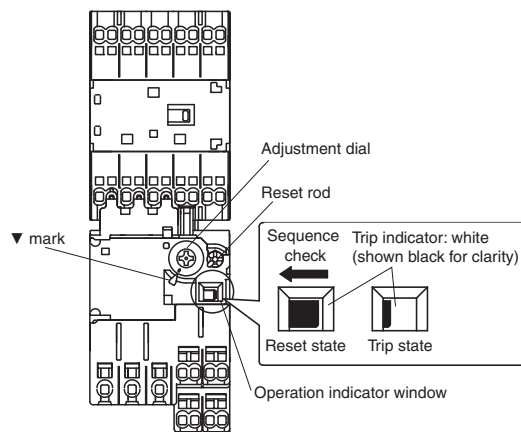

Fig. 1
(1) Current settling [Fig. 1]
(2) Operation indicator [Fig. 1]
(3) Sequence check [Fig. 1]
(4) Reset method [Fig. 1]